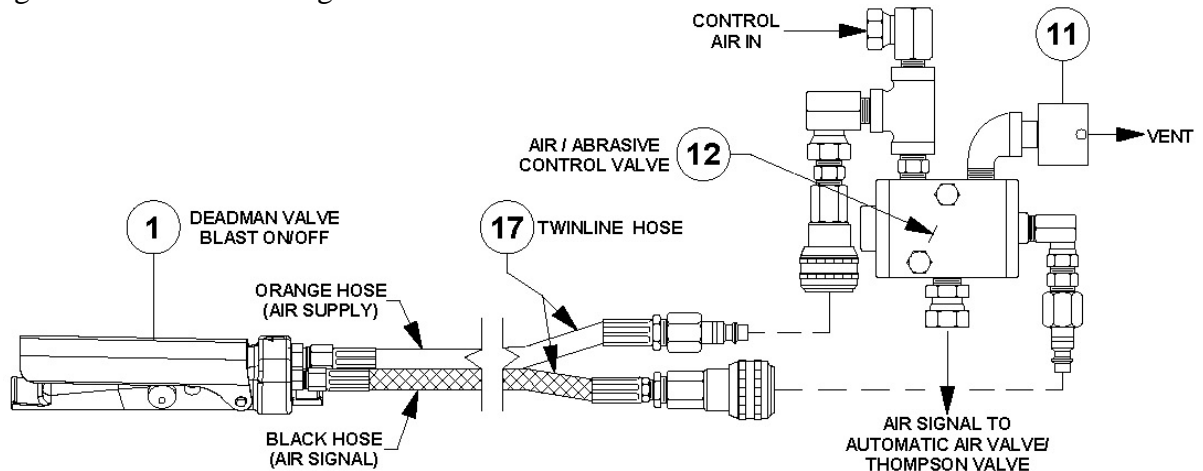

Figure 5.3 – Pneumatic Blast Control System
5.10.1. Pneumatic Deadman System: When the pneumatic deadman lever is pressed down air supply from the orange hose of the twinline hose (#17) flows into the black hose. Air flows through the black hose to the signal port of the control valve (#12) causing it to open and send air signals to the auto air valve (#10) and the Thompson Valve® (#13). When the deadman lever is released the air signal is cut off and the remaining air vents from the breather (#11). See Figure 5.3 and the drawing in Section 9.1.